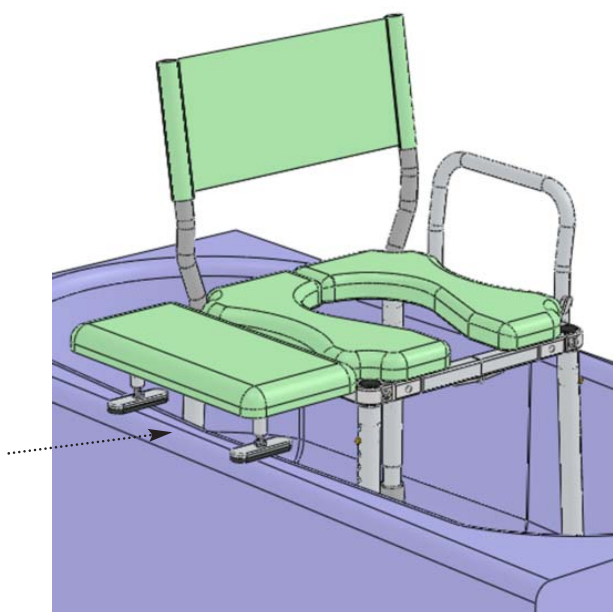

Figure 9
- 3) Remove the swing-away arm on the side in which you intend to transfer to. Next, insert the transfer cushion assembly into the appropriate side of the multiCHAIR by first slipping the end with the stainless steel pin into matching hole in the frame. Then lower down the assembly until the block engages around the black plastic ball attached to either side of the frame. Adjust the rubber adjusting feet accordingly to secure the transfer cushion onto the top of the tub wall (Refer to Figure 9).